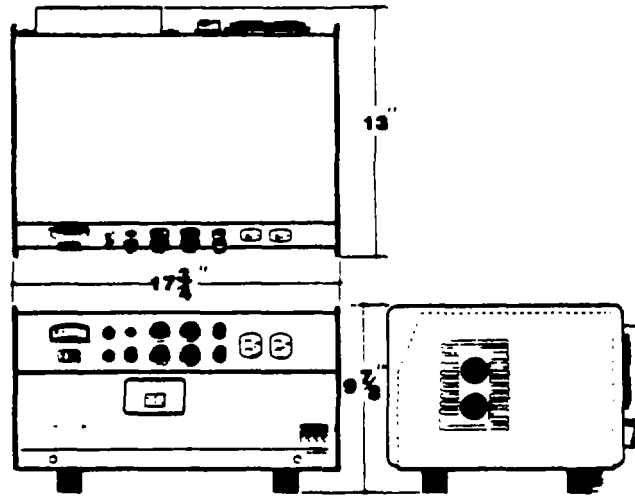

Figure 2.2.5B
- 2.2.5 Chassis Configuration - Shown on figure 2.2.5B.